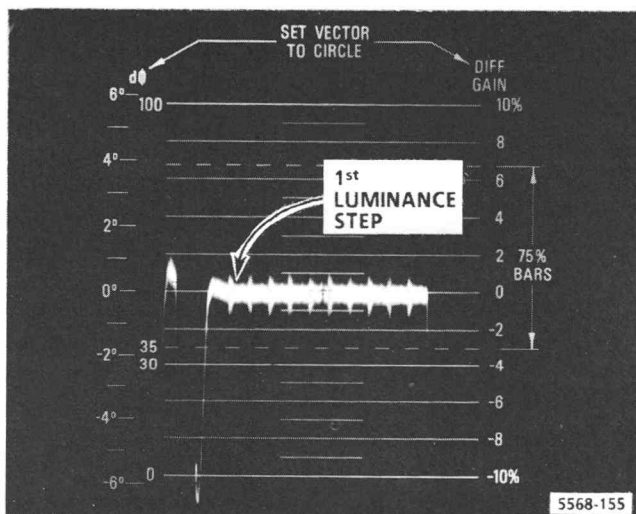

Fig. 4-19. Typical display when checking differential gain.
- d. **CHECK** that the differential gain of the remaining luminance steps is 1% or less in all **SYNCHRONOUS DETECTION** modes with **SOUND TRAP** set to **IN** and **OUT**. See Fig. 4-19.